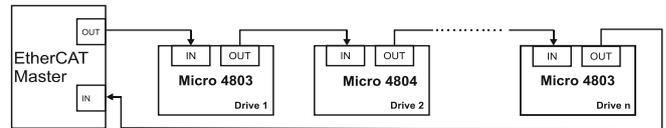

Figure 3-75 EtherCAT network ring topology
- *Figure 3-75* for a visual representation of the ring topology.